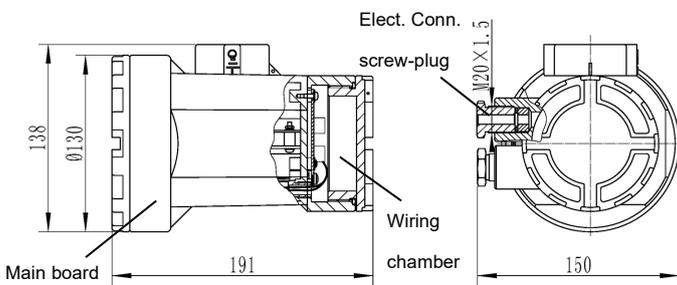

Fig.15 Installation of T1000 Transmitter
- T1000 transmitter: When wiring, the thread of the transmitter Elect. Conn. screw-plug shall be well tightened and sealed to prevent the flammable gas, moisture and dust from entering (Refer to Fig.15). In the wiring chamber of the transmitter there are